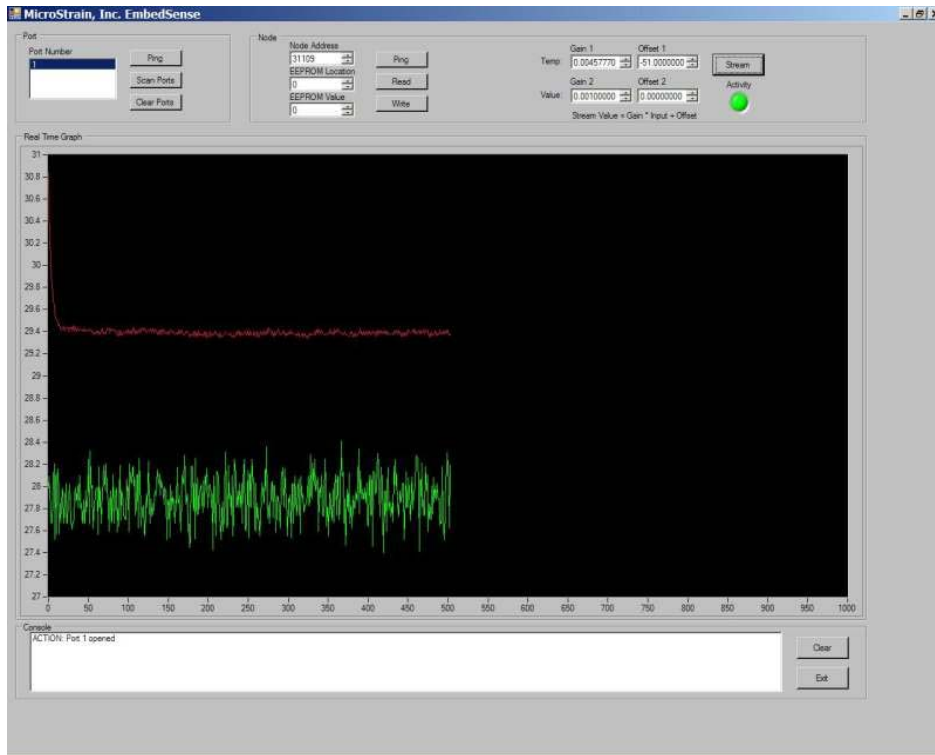

Figure 6
- Channels 1 (green trace) and 2 (red trace) will begin sampling and displaying on the graph. See Figure 6.